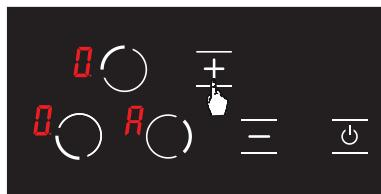

Figure 13
3. Then, when you press the **+** key again once, auto heating function is activated and the **R** icon is displayed on the screen. (See Fig. 13)